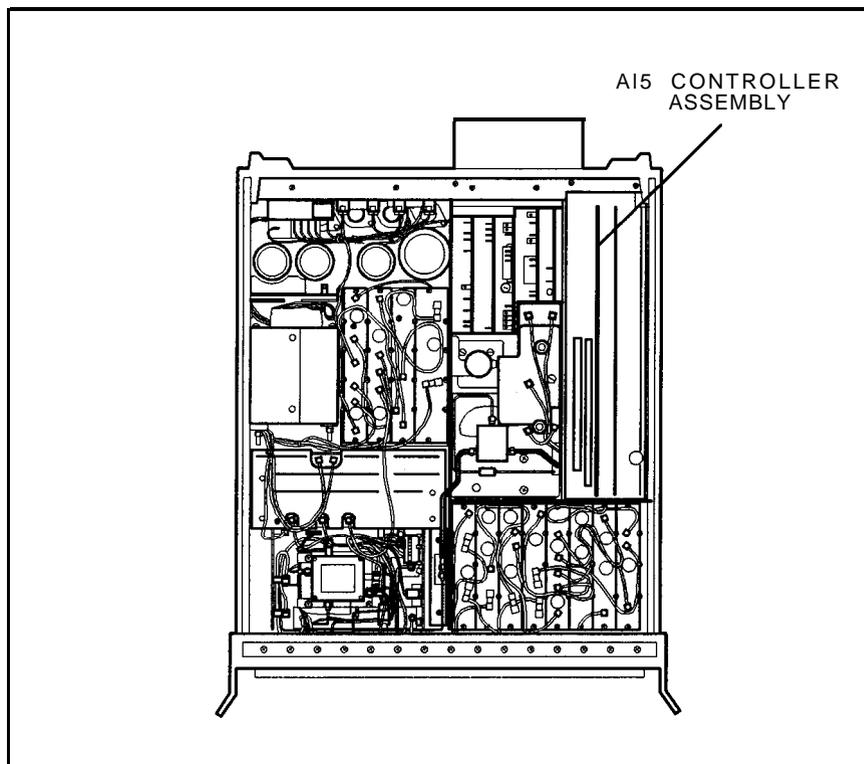

Figure 1-7. Location of A15 Controller Assembly
5. Remove the cover from the A15 controller assembly. See Figure 1-7.